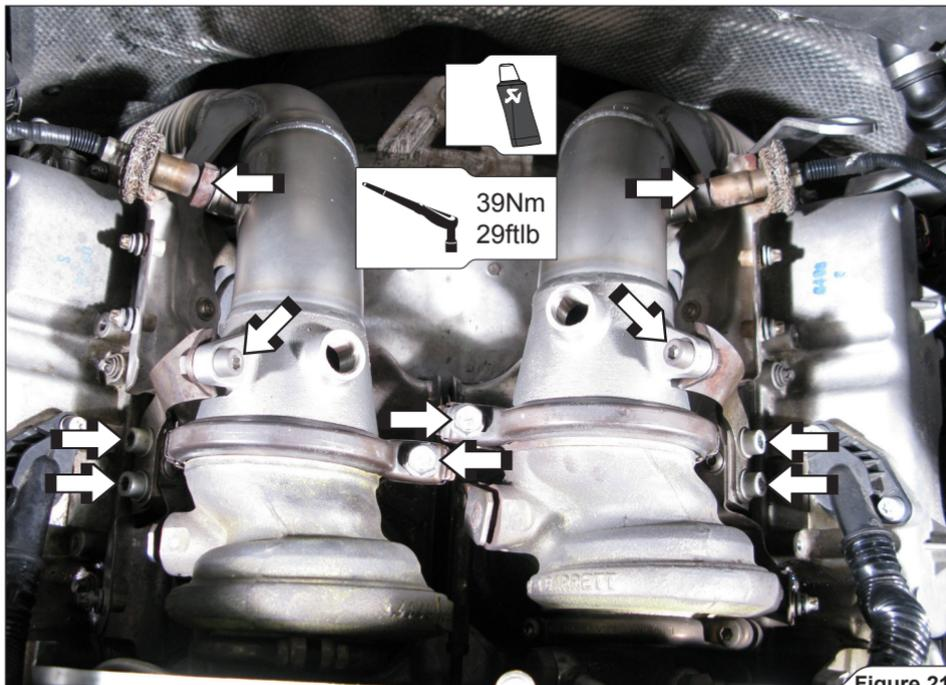

Figure 21
1. **For optional Down Pipes only:** install the down pipes, **hand tighten** the clamps and marked bracket bolts, and tighten the rear lambda sensors (**Figure 21**).